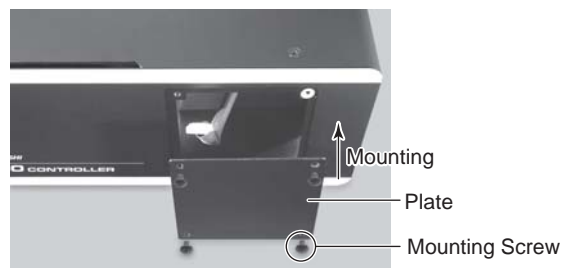

Fig. 23
- (5) Mounting the Plate using the 4 mounting screws. (Fig. 23).